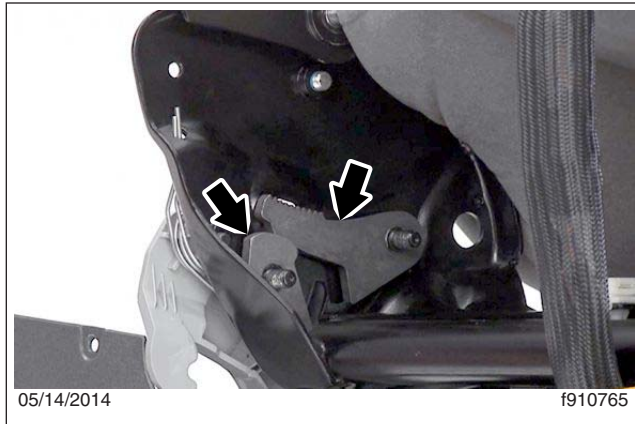

Fig. 7, Recline Mechanism
2. Install the two-piece recline mechanism, as shown in Fig. 7.